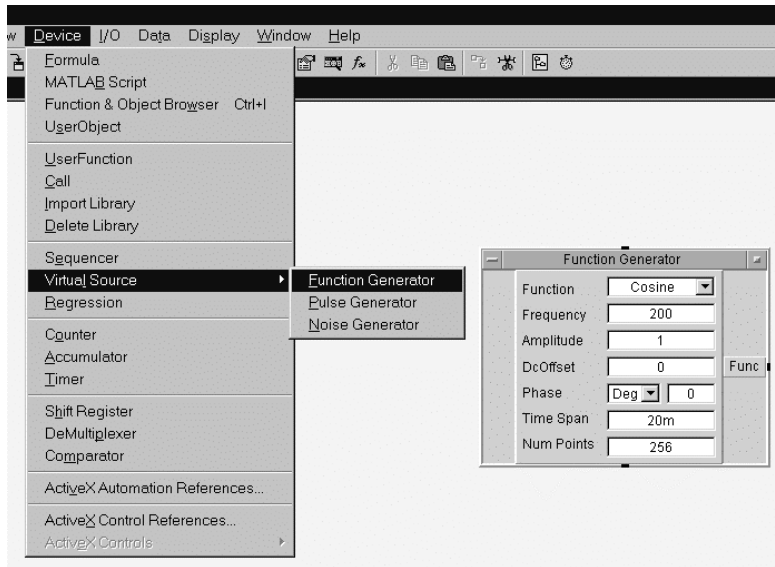
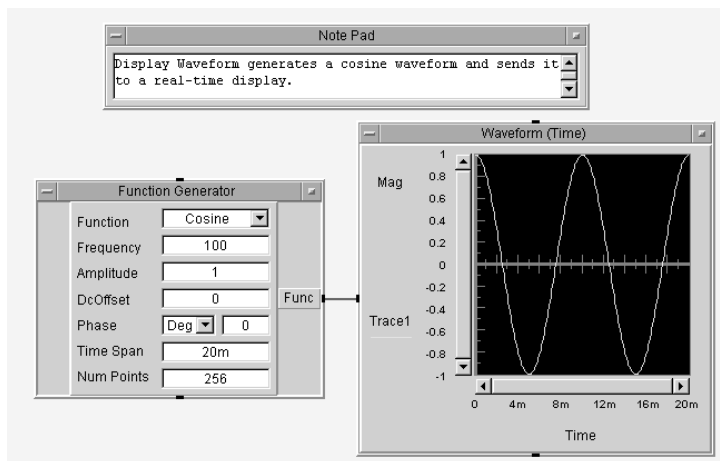

Figure 1.1. The Function Generator Object open view
Figure 1.3. The Display Wave program
This lab will show you, via a simple program, how to start a VEE Pro program, then generate and display a waveform. You will also learn how to select and use a Note Pad (step 2 below), a virtual Function Generator (Figure 1.1), and a virtual waveform display (Figure 1.3). You will then learn how to connect these two objects to create an operable program and how to run and save that program.
8. Select Menu Bar => Device => Virtual Source => Function Generator. A wire-frame outline will appear. Move the outline until it is at the left of your Work Area and below the Note Pad. Click the mouse; the Function Generator Open View will appear in that position. See Figure 1.1.
16. Locate the right-pointing solid arrow on the Tool Bar – the Run arrow. (It is the fifth icon from the left.) Click on this arrow. (The program should run.) A cosine waveform will appear on the virtual oscilloscope. See Figure 1.3 below.